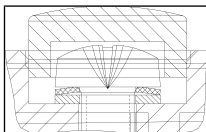

Fig.6: Alignment of disk springs
i For the arrangement of the disk springs (7) and washer (8) as well as the alignment of the disk springs, see Fig. 6.
12. Mount the screw covers (5).